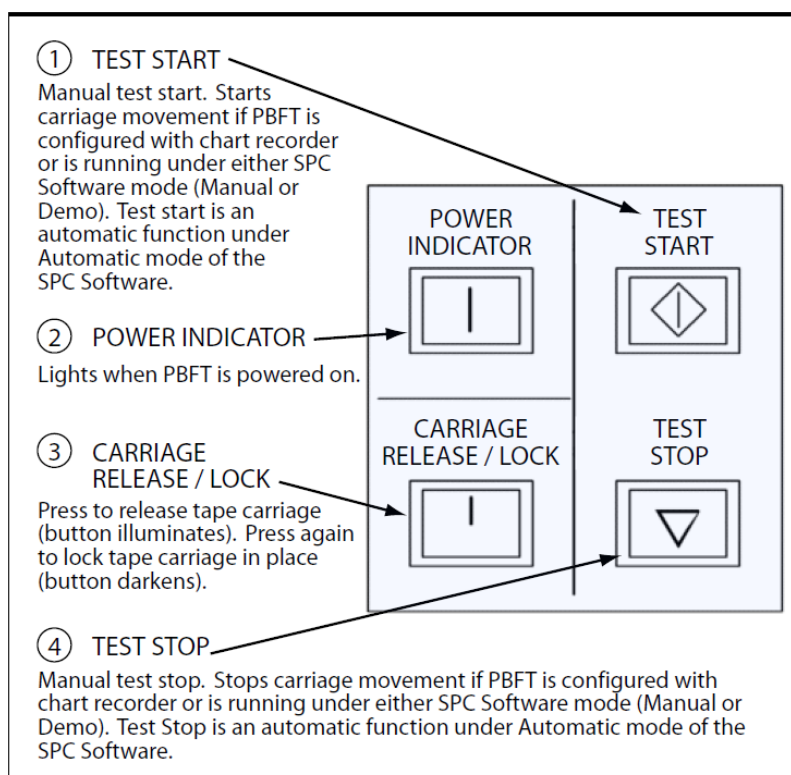

Figure 2: PBFT VS - control buttons
1. Turn on the PBFT power switch. The power indicator (**Figure 2, Item 2**) will illuminate.
- a. Press CARRIAGE RELEASE/LOCK (**Figure 2, Item 3**) to release the tape carriage.
- e. Press TEST START (**Figure 2, Item 1**). The following should occur: